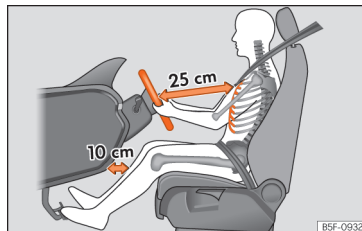

Fig. 15 The correct distance between the driver and the steering wheel must be at least 25 cm (10 inches).
- Adjust the steering wheel so that it is at a distance of at least 25 cm (10 inches) from the sternum »» Fig. 15 and can hold it with both hands on the sides, on the outside, with the arms slightly flexed.